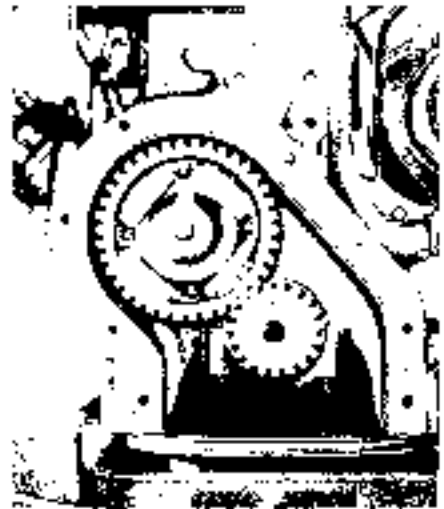
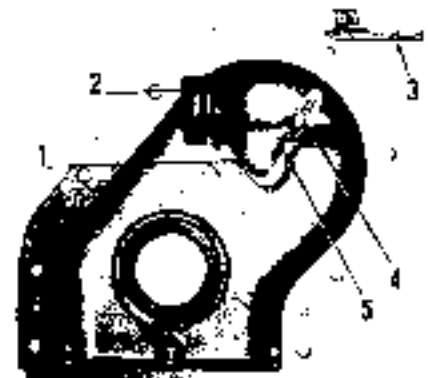

Fig. MH13—Pony timing gears, showing position of governor weights and carrier, attached to camshaft gear.
Fig. MH14—Pony governor lever shaft assembly in timing gear cover.
34. LINKAGE ADJUSTMENT: To check or set all linkage, first adjust camshaft-to-governor rod (B) so that there is $\frac{1}{16}$ inch clearance between throttle lever and its wide connecting rod (C) when governor lever is in wide open position. Turn bumper screw (D) out so it is cooperative. Check to see that all linkage operates freely; then start engine and warm to operating temperature; then adjust as outlined in preceding paragraph.
35. OVERHAUL GOVERNOR: To remove governor, first remove timing gear cover as method under TIMING GEAR COVER section. Fig. MH13 shows position of weights and carrier, plunger and shaft of the governor gear. Fig. MH14 shows governor lever shaft and bumper spring and screw in timing gear cover. Inspect weights and pins for wear; also check weights for amount of wear on thin plunger contacting surface. Inspect plunger for wear on its shaft and also on weight-contacting surface of its end. If lever shaft bearing in timing gear cover is worn, remove the cover which attaches arm (1)—Fig. MH14; to lever shaft; take out roller pin (2) and pull lever shaft from cover. Note that a steel ball is located in lower hole of cover; bottom of lever shaft rests on this ball. The worn hole (3) may be driven out of cover; hole in cover and received. Renew the ball and use it bumper spring (5). Fig. MH14 is loose in cover, remove it in place.